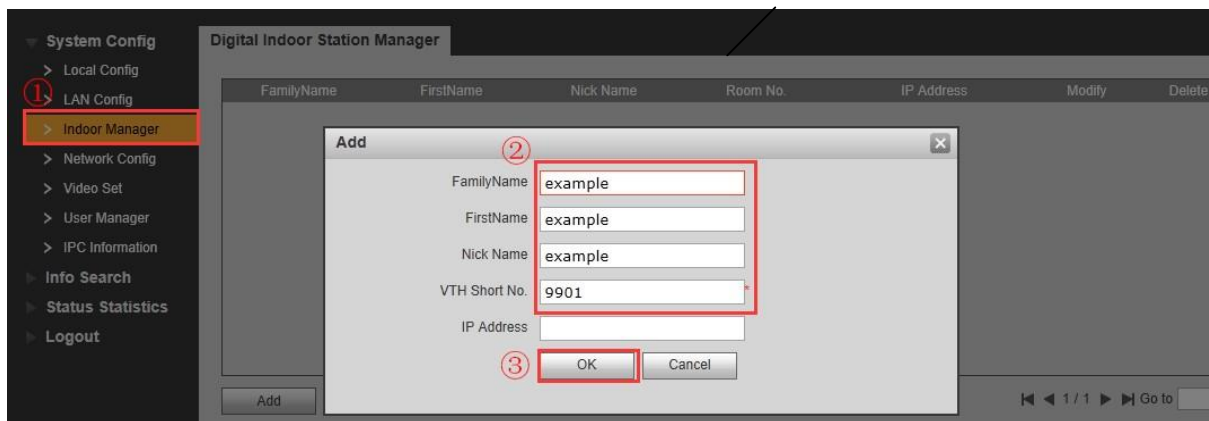

Figure 2-5
- c) Now you can add digital VTH. System has added room 9901 by default. See Figure 2-5.